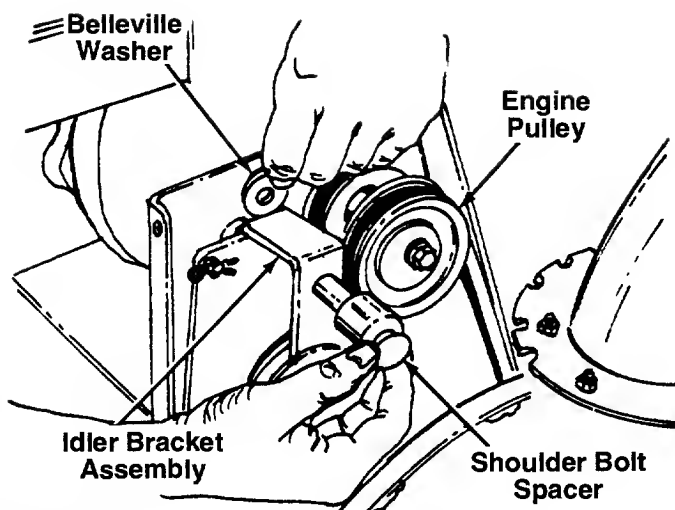

FIGURE 30.
3. Remove the large shoulder bolt and spacer on the right hand side of the engine pulley with an adjustable wrench. Remove the shoulder bolt and spacer from the idler bracket assembly with one hand. Use the other hand to catch the belleville washer which is on the shoulder bolt between the idler bracket and engine plate. See figure 30.
12. Reassemble the large shoulder bolt, spacer and belleville washer as shown in figure 30. Belleville washer goes on shoulder bolt between the idler bracket assembly and engine plate (cupped side toward engine plate).